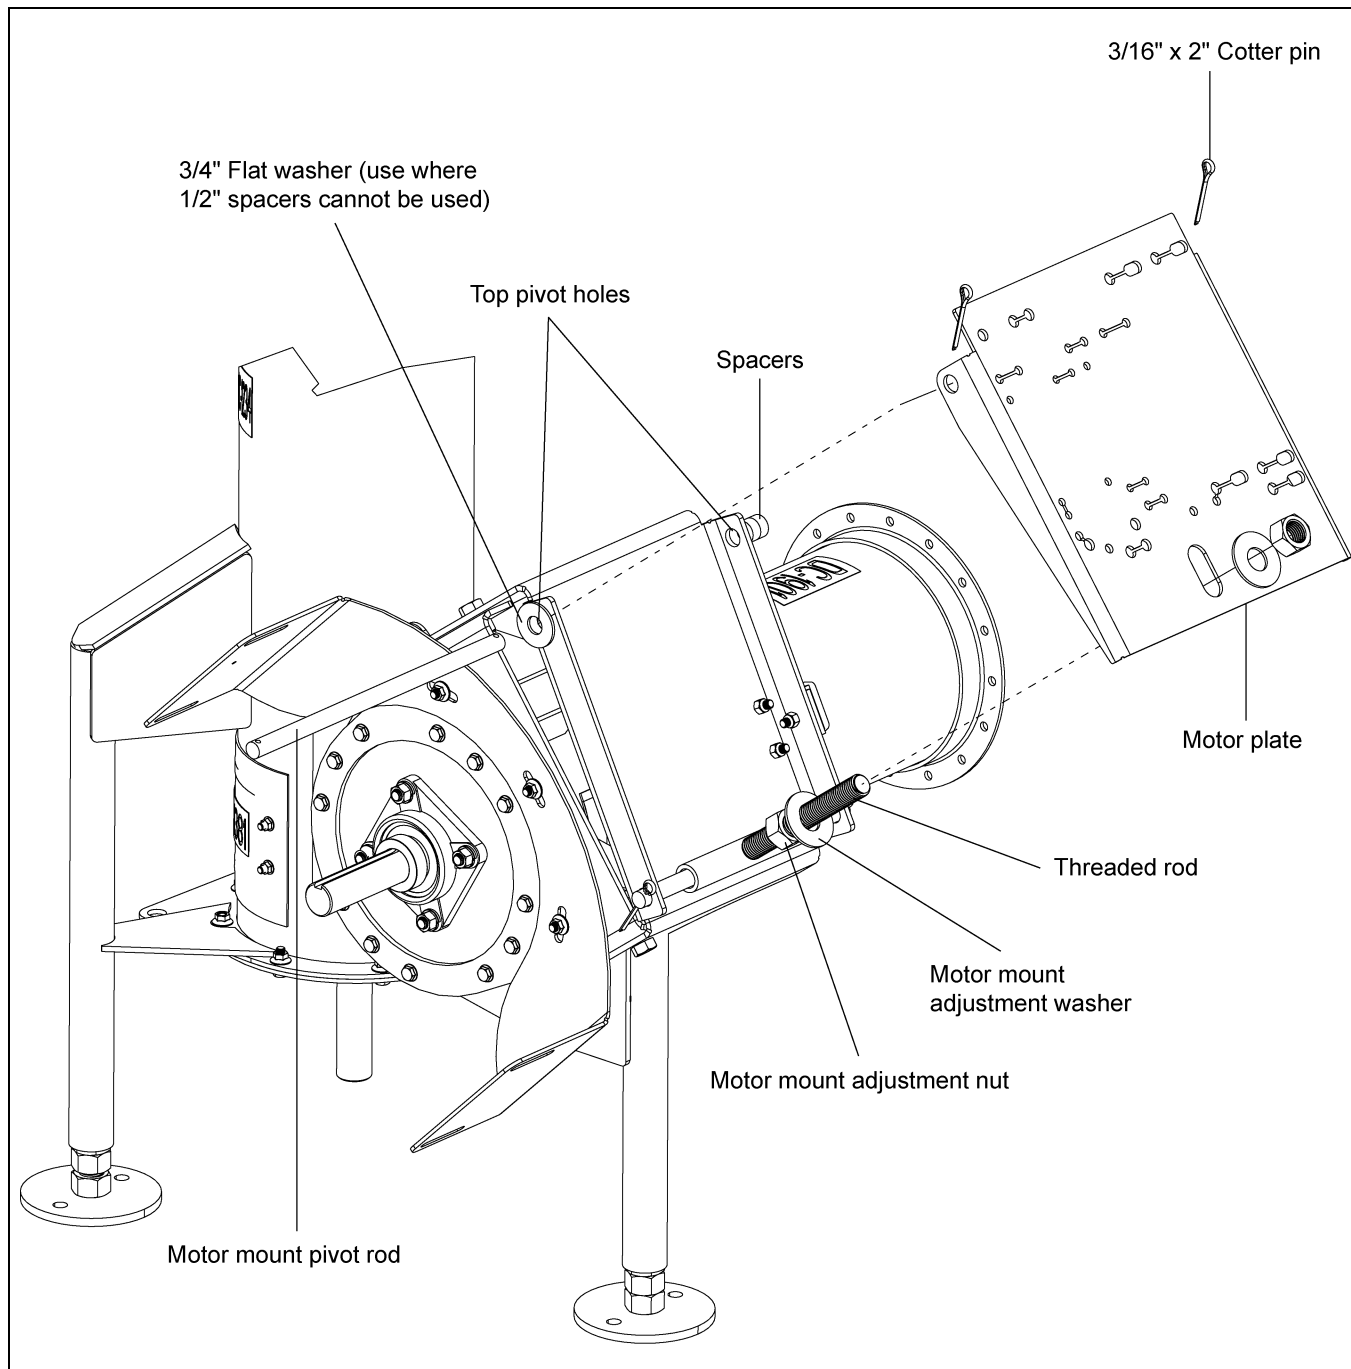

Figure 4R
2. Once the nut and washer are in place, slip the motor plate over the adjuster and align its pivot holes with the top pivot holes on the motor mount plate. (See Figure 4R.)